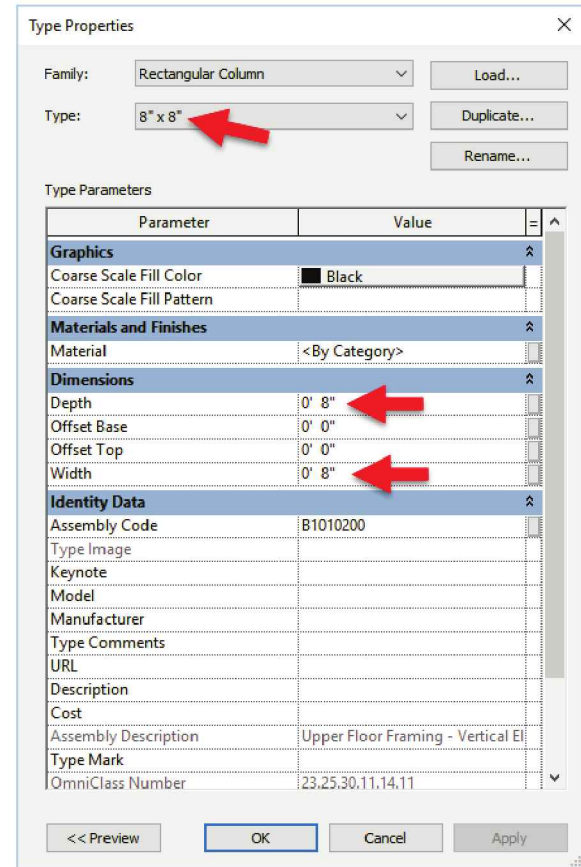

FIGURE 11-4.2 New type properties
7. Change the *Width* and *Depth* parameters to **8"** (Figure 11-4.2).